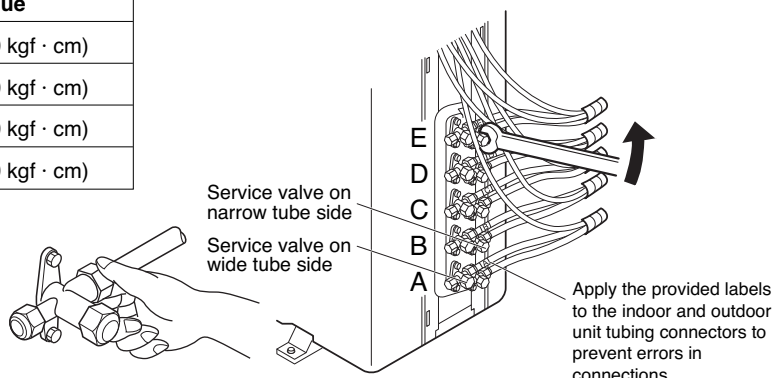

Fig. 14
- Temporary connection: Screw in 3 – 5 turns by hand. (Fig.14)